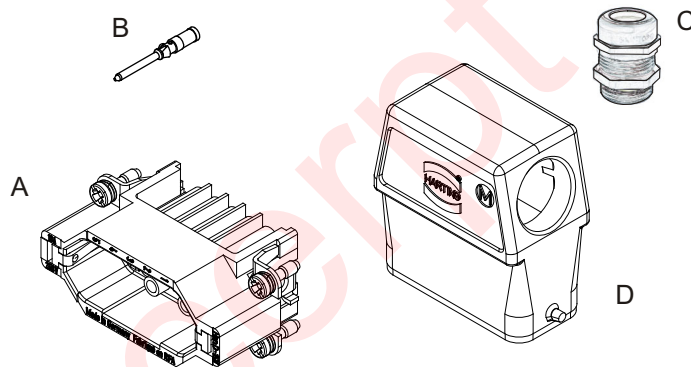

Figure 179: Components required for REMOTE connector
- 1 Crimp terminal HAN-15D, 15+PE, male, 10A (Harting part no.: 09 21 015 3001; see Figure 179, A)